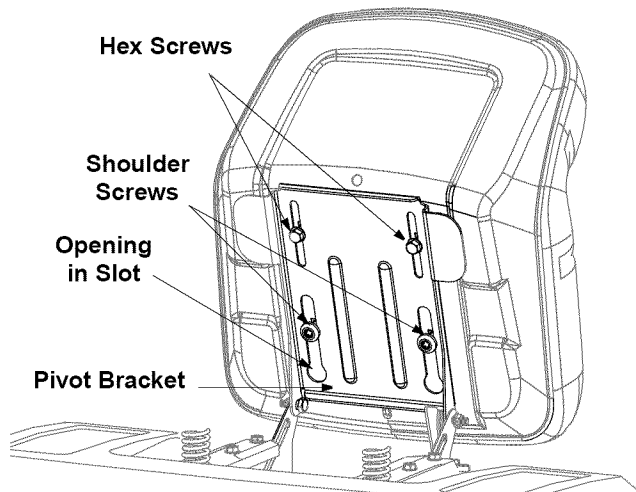

Figure 3
1. Position the shoulder screws (found on the base of the seat) inside the slot openings in the seat pivot bracket. See Figure 3.
3. Select desired position for the seat, and secure with the two hex screws removed earlier. See Figure 3.